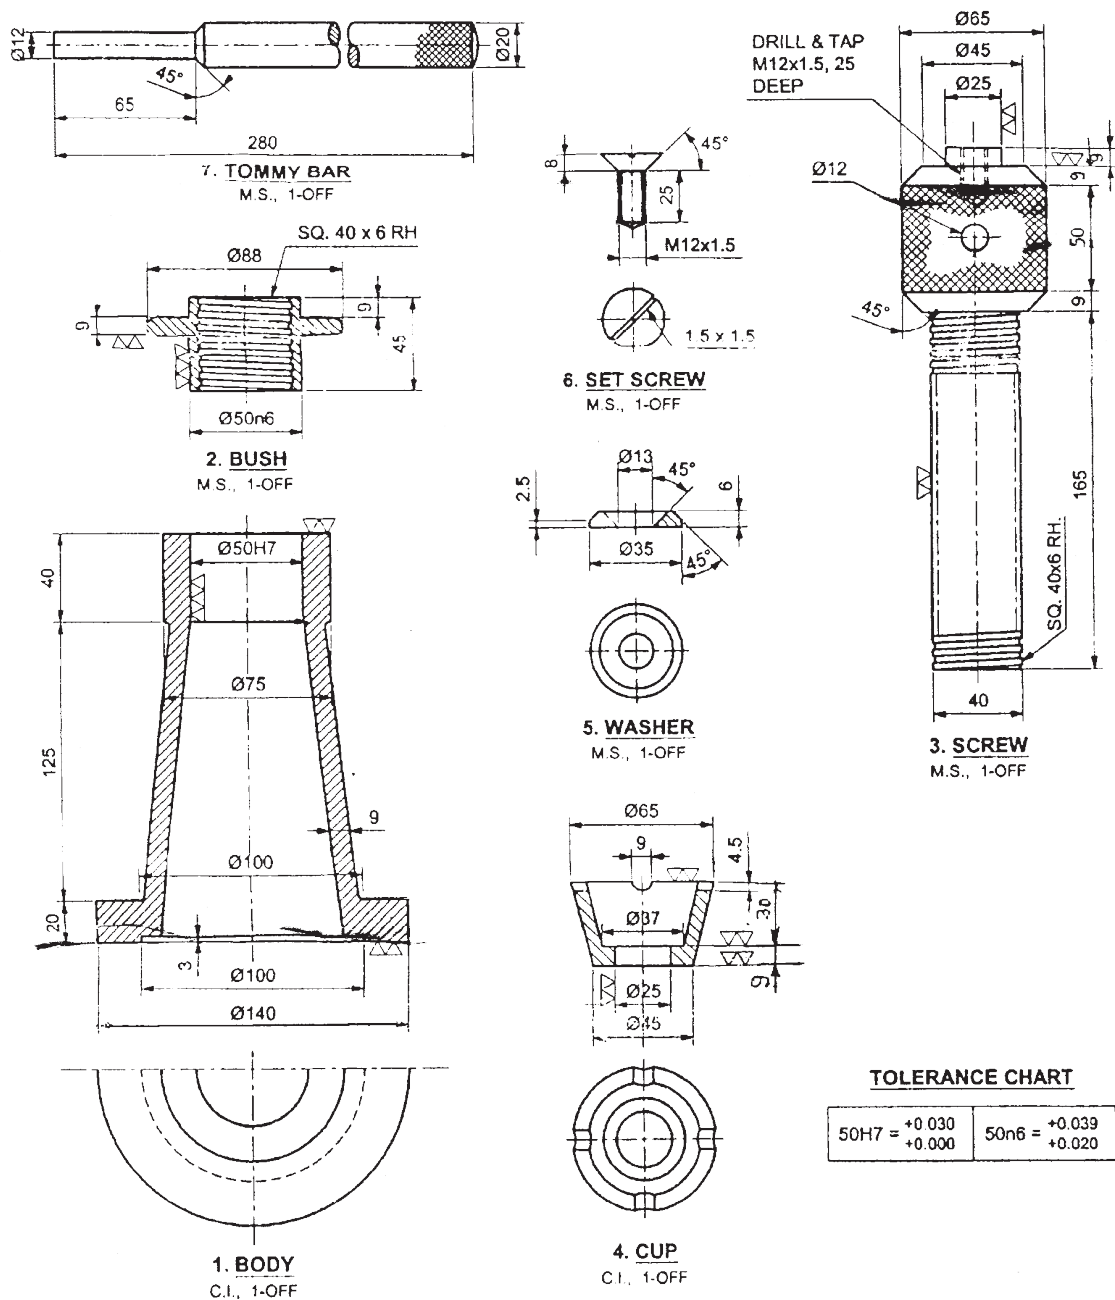

Fig. No. 5
a) Fig. No 5 shows the details of screw jack. Draw the following views of Assembly.